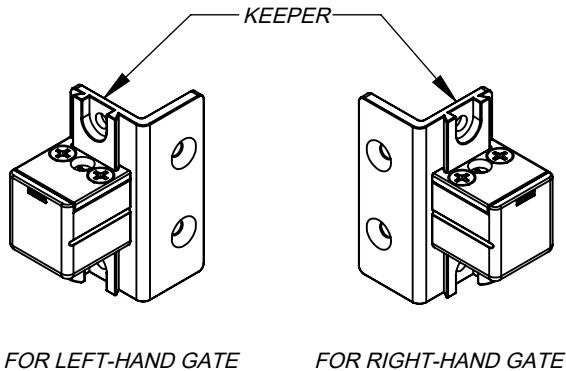
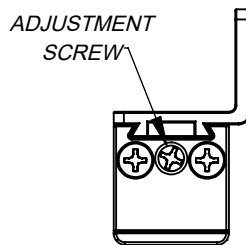
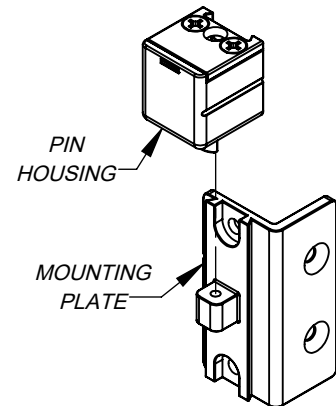
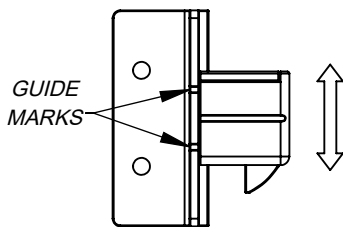

Figure 17
Figure 18
Figure 19
Figure 20
1) Make sure the Keeper is in the correct orientation (Figure 17). If the gate is a left-hand gate, it should be in the left-hand configuration. If the gate is a right-hand gate, it should be in the right-hand configuration. To change the configuration of the Keeper, use a screwdriver to turn the adjustment screw (Figure 18) counterclockwise until the Keeper pin housing can be removed from the Keeper mounting plate (Figure 19). Turn the mounting plate 180 degrees, slide the pin housing back onto the dovetail of the mounting plate, and turn the screw clockwise until the pin housing is centered on the mounting plate (Figure 20).